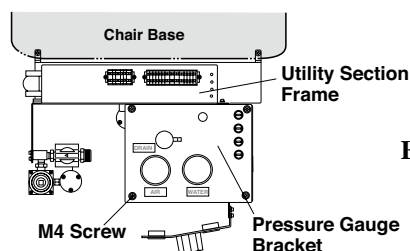

Fig.6-7 Pressure Gauge Bracket
(2) Utility Section Frame Installations
- Remove 4 x M4 screws and remove the pressure gauge bracket from the utility section frame to make installation space. (Fig.6-7)